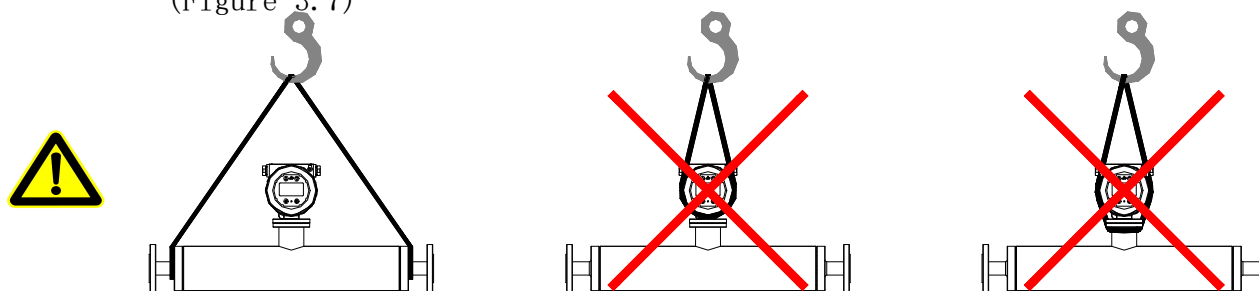

Figure 3.7 Flowmeter lifting
- Use a mesh soft rope to wrap around the process connection at both ends. Do not wrap the rope around the transmitter shell or the shell of the cable connecting chamber. Do not use a chain to avoid damage to the shell. (Figure 3.7)